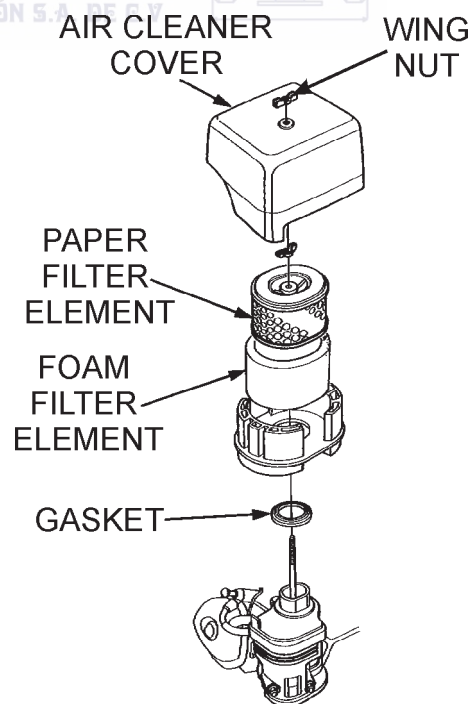

Figure 34. Engine Air Cleaner
1. Remove the air cleaner cover and foam filter element as shown in Figure 34.
2. Tap the paper filter element (Figure 34) several times on a hard surface to remove dirt, or blow compressed air [not exceeding 30 psi (207 kPa, 2.1 kgf/cm²)] through the filter element from the air cleaner case side. **NEVER** brush off dirt. Brushing will force dirt into the fibers. Replace the paper filter element if it is excessively dirty.